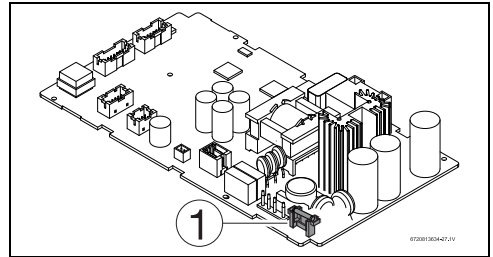

Fig. 37 Fuse position
- ▶ Check the fuse on the printed circuit board, for electrical continuity, see fig. 37, [1].